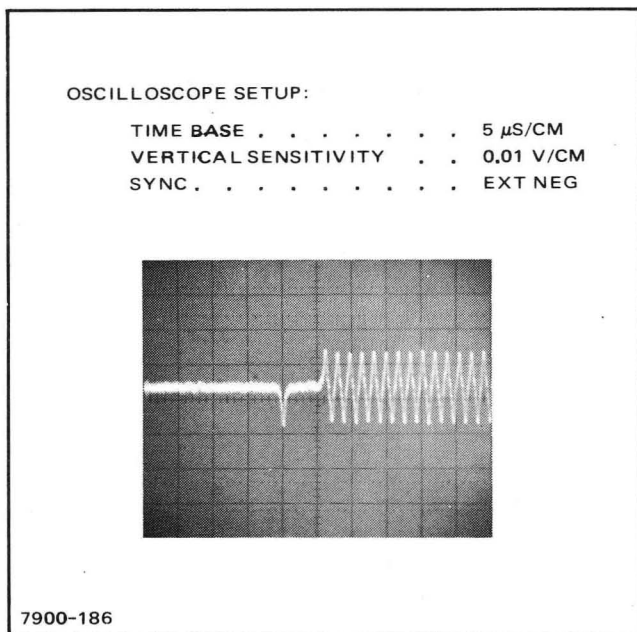

Figure 5-9. Sector Circumferential Adjustment Waveform (Using Alignment Cartridge, Part Number 1535-0066)
d. Adjust the sector position variable resistor A8R2 for a 20 μ s delay from the leading edge of index (beginning of sweep) to the first data pulse. When using alignment cartridge part number 1535-0066, observe the waveform as shown in figure 5-9. If alignment cartridge part number 1535-2531 is used, observe the waveform as shown in figure 5-10.
f. When using alignment cartridge part number 1535-0066, observe the waveform in figure 5-9 and ensure that the first data pulse is present within $\pm 6 \mu$ s of the data pulse position in step d. If alignment cartridge part number 1535-2531 is used, observe the waveform in figure 5-10. Ensure that the first pulse of the data burst occurs within $\pm 6 \mu$ s of the data pulse position in step d.